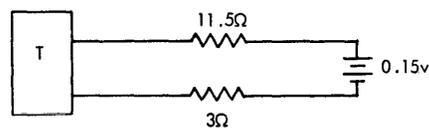

Figure 18. Terminator Load
3. The terminator must be capable of supplying at least 23.89 ma to the following load (Figure 18).